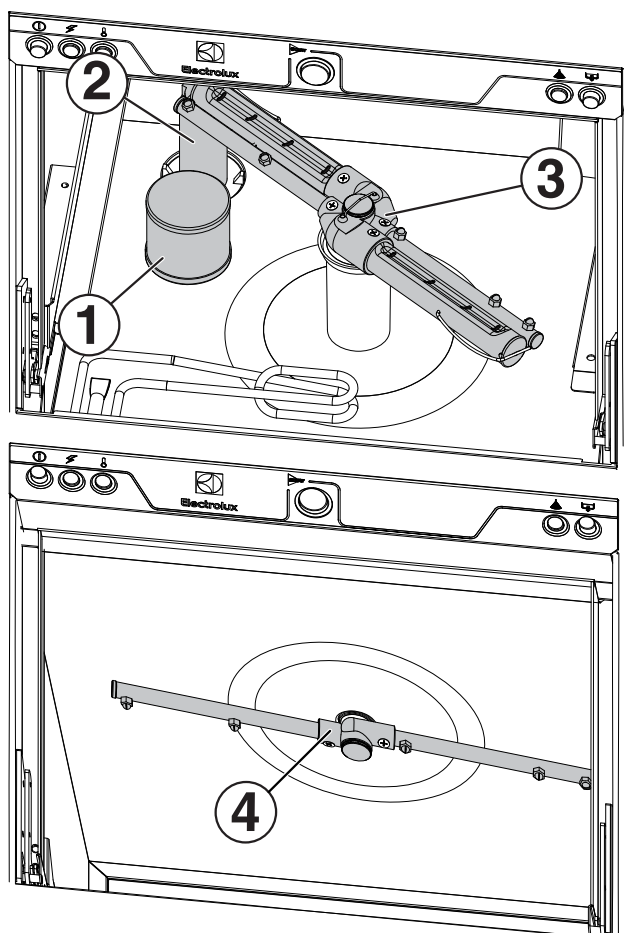

Figure 10 Pump filter, overflow and wash arms
Make sure the pump filter “1”, overflow “2” and the upper and lower wash and rinse arms “3, 4” are correctly fitted (Figure 10).
Depending on the model, make sure also the tank filter (5) is correctly fitted (Figure 10).